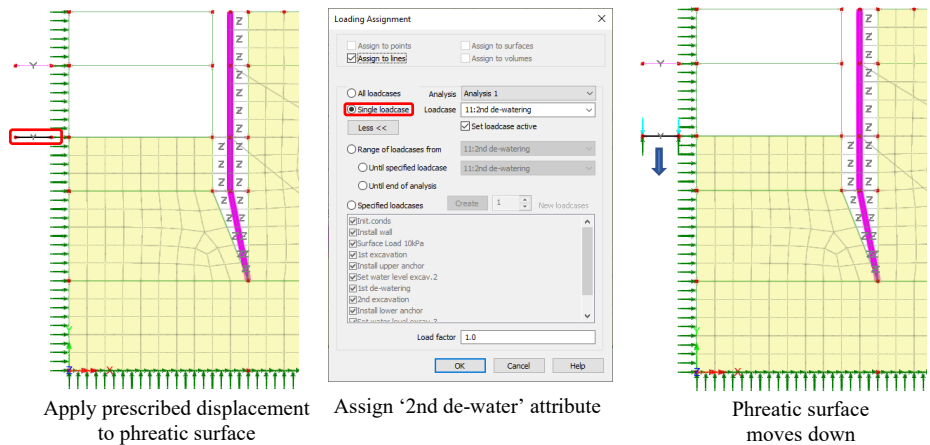

Figure 55: Lowering of phreatic surface
- Select the lower phreatic surface on the left and assign structural loading attribute **2nd de-water**. Ensure that the **Single loadcase** radio button is selected (figure 55).